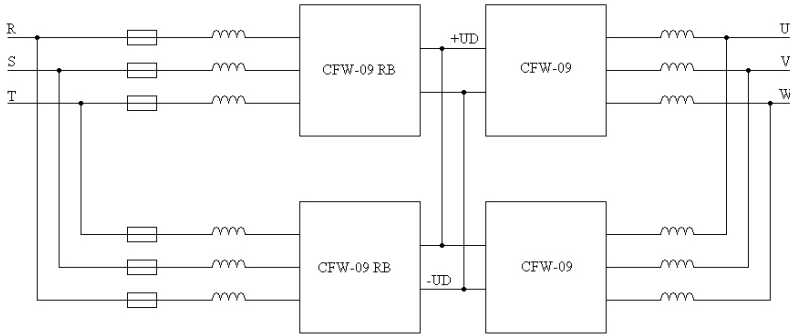

Figure 5 - Supply by regenerative converter
- ☑ The use of the CFW-09 RB is another supply possibility through the DC link with low distortion. CFW-09 RB (Fig. 5). This configuration is also available with three modules. The CFW-09 RB is only available for 380-480V-supply voltage.